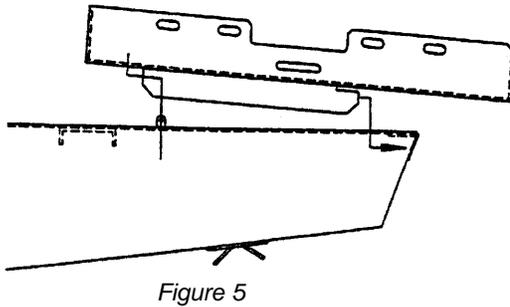

Figure 5
2. Orient SmartBox® cradle as shown in Figure 5.